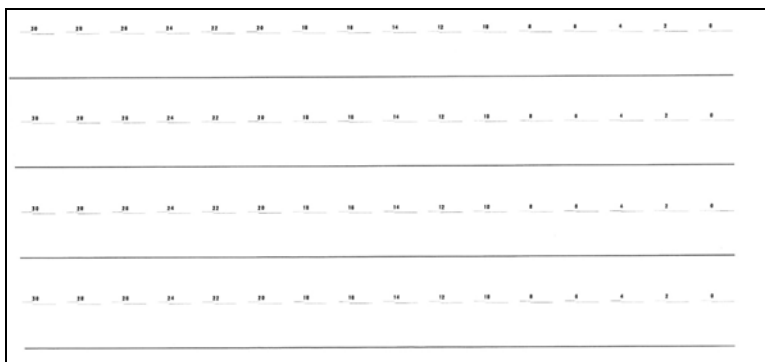

Figure 40. X Gap calibration (4 tests displayed)
2. Check the plot for the line and corresponding numeric value that represents the best match of the two printed lines (Figure 40).